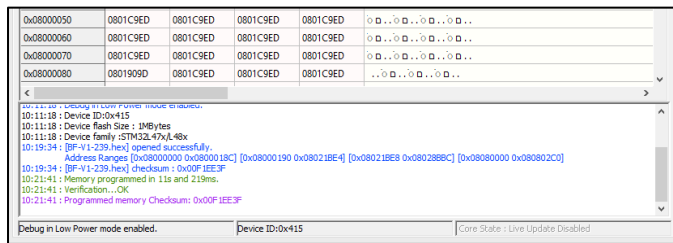

Figure 34. Successful Firmware Download Window
- When the firmware upload is complete, a Verification...OK message is shown (Figure 34).